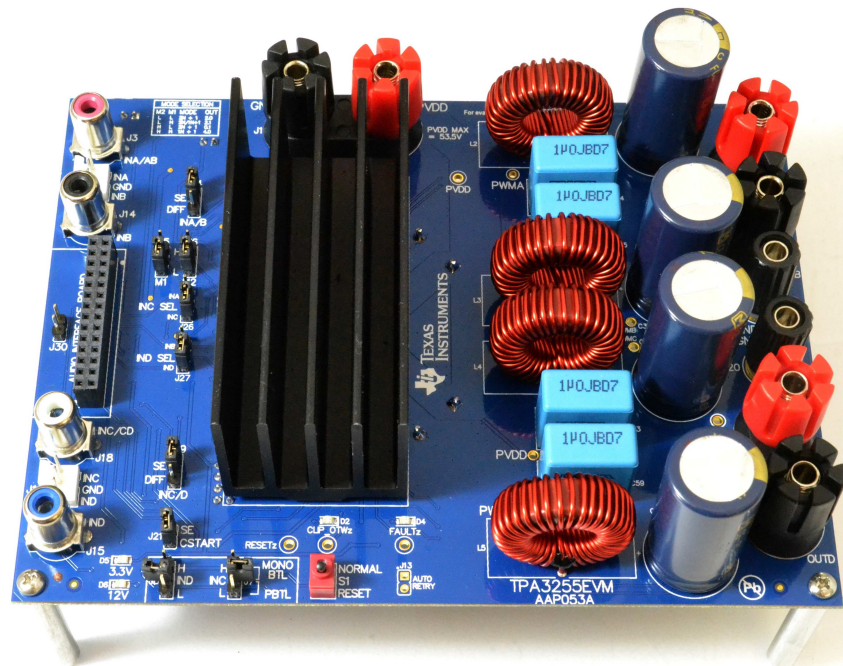

Figure 1. TPA3255EVM
- Check that jumpers are in their default state as shown in Figure 1 and Table 3 for stereo **BTL** operation: